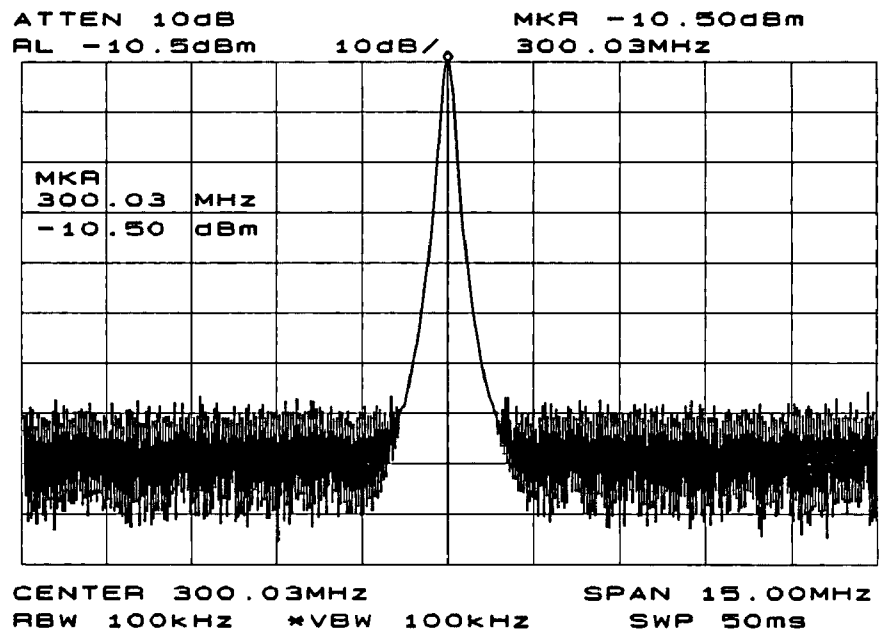

Figure 3-13. Input Signal Displayed in a 15 MHz Span
1. Using the setup from the previous example, press **OFF** to clear the markers from the screen. To measure the fundamental, press **PEAK SEARCH**. Press **MARKER→CF** to move the fundamental to the center frequency and then press **PEAK SEARCH** and **SIG TRK ON**. Reduce the frequency span to 15 MHz by pressing **SPAN 15 MHz**. The signal track function allows you to “zoom” quickly to a narrower span without losing the signal from the screen. After the span is reduced, turn off the signal track function. Next, set the center frequency step size to 300 MHz by pressing **MKR→** and **MKR→CF STEP**. The resulting display should resemble Figure 3-13.